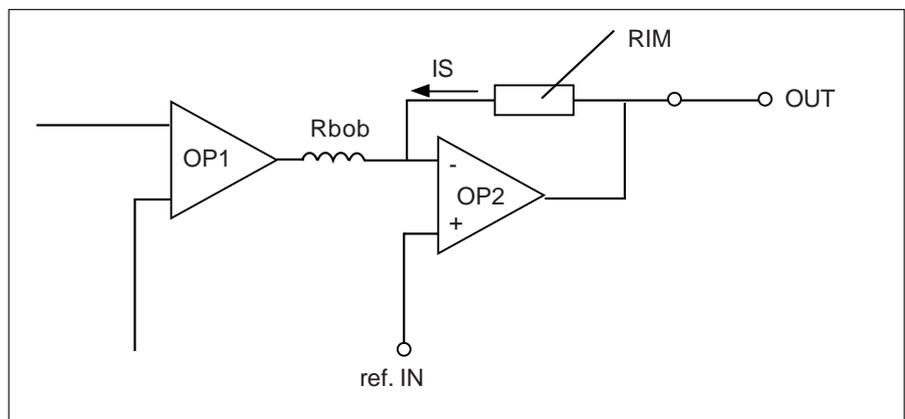

Fig. 9: Measuring range in Ref in mode. LTSR output schematic.
- The positive measuring range is defined as follows: OP1 & OP2 (figure 9) saturate above 4.5 V and below 0.5 V. The voltage at the Rim connections is equal to: 4.5 V (max possible output) -  $V_{Refin} = 4.5 \text{ V} - 2.7 \text{ V} = 1.8 \text{ V}$ .